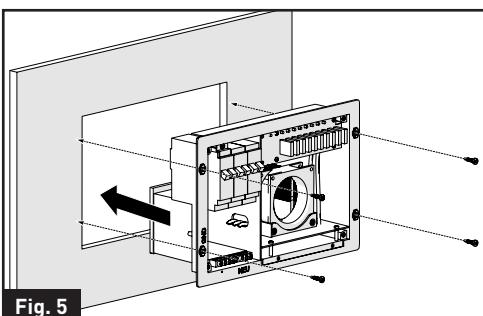
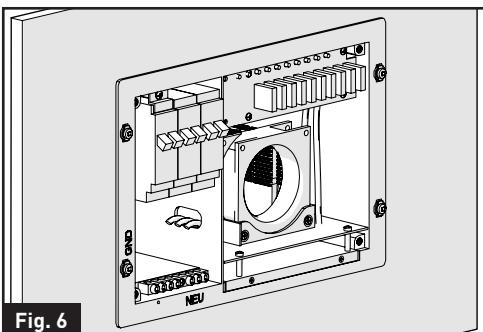

Fig. 5
Fig. 6
7. Slide the power center into the opening area and affix with 4 self-tapping screws (#8-18 thread) (not supplied). (Fig.5 and Fig.6)